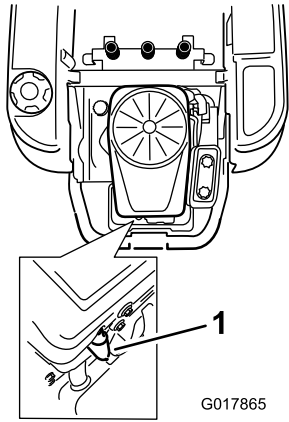

Figure 32
3. Disconnect the wire from the spark plug (Figure 32).